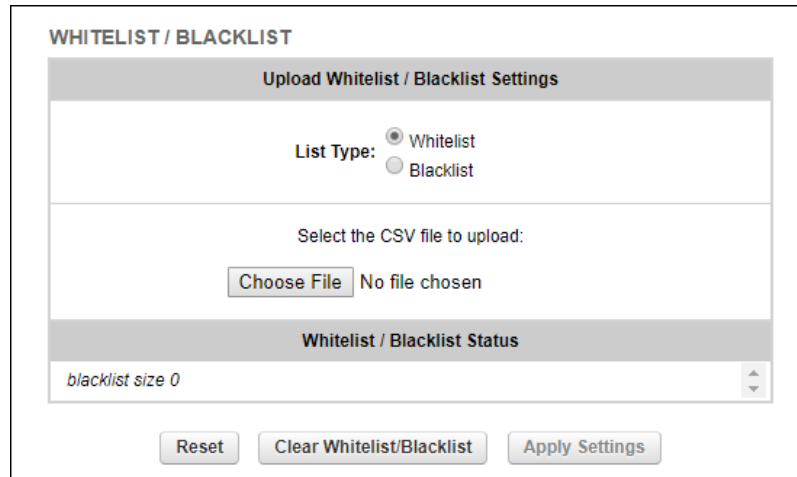

Figure 36. Configurator (Pass list / Block list dialog)
- The **Pass list / Block list** dialog will be shown (Figure 36 (page 99)).